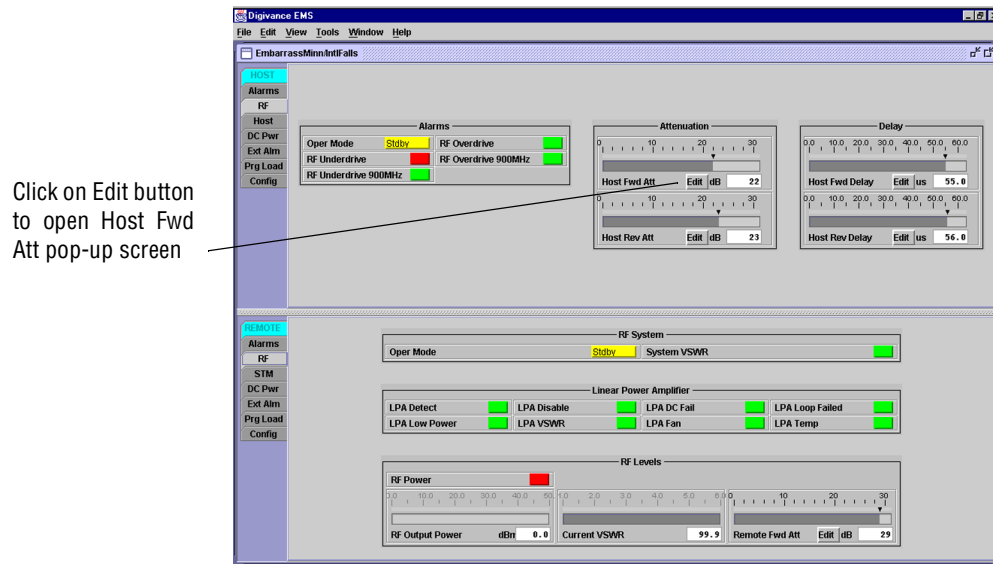
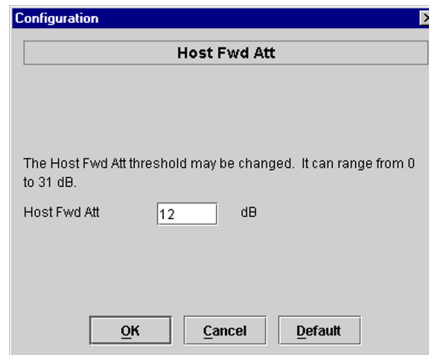

Figure 3-8. HOST RF Display
Figure 3-9. Host Fwd Att Pop-Up Screen
- Click on the **HOST RF** tab. The **HOST RF** display will open within the EMS main window as shown in Figure 3-8.
- Click on the **Host Fwd Att Edit** button (see Figure 3-8). The **Host Fwd Att** pop-up screen will open as shown in Figure 3-9.